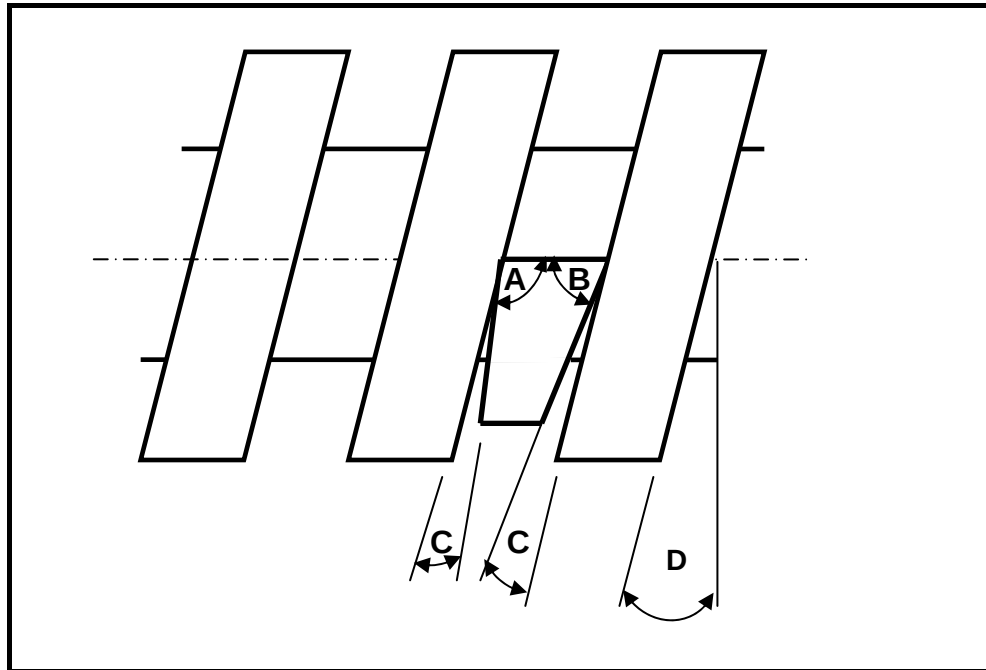

FIGURE 2.5
- 2.6 FIGURE 2.5 shows a cutting tool suitable for cutting left-hand square screw thread, in position. Label the angles according to the letters A – D.